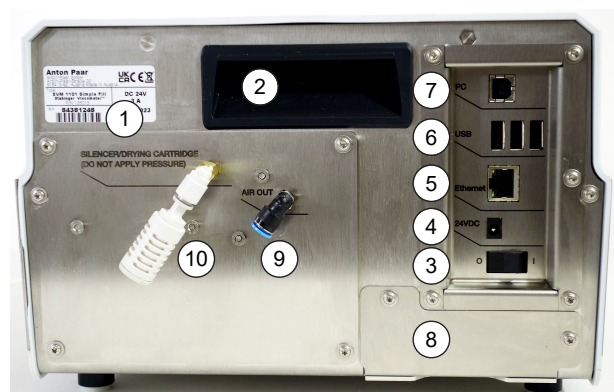

Fig. 6: DMA 1102 Petro rear side
5. Plug the air hose into the connector "AIR OUT" on the rear (Fig. 6 [▶ 8]).